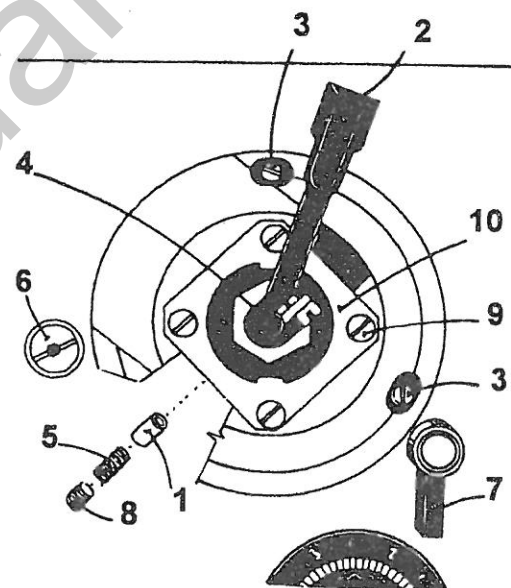

Fig. 12
**19. To adjust the control force required for stepless adjustment of the zigzag stitch width (Fig. 12,13)**